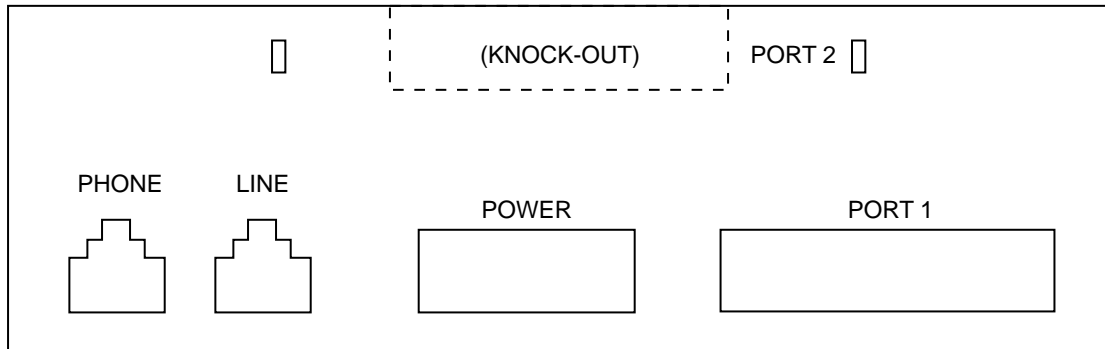

FIGURE 8-8. The Jacks on the 7500 Data Module
8. Connect the D8W line cord to the jack labeled **LINE**. See Figure 8-8 for the location of the jacks.